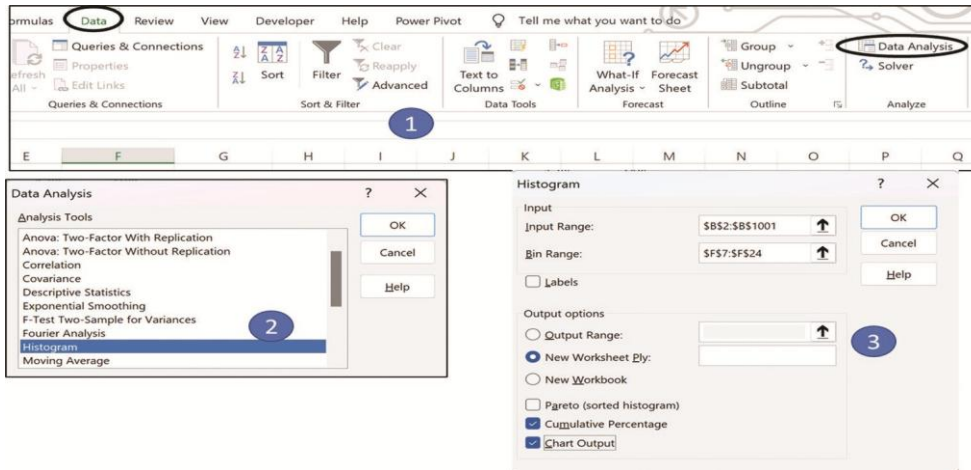

Figure 12.16: Requesting the statistics of the simulations
As we have the results of 200 runs, we can perform a statistical analysis of the results. If we name the range B2:B201 simulations - we can go to (1) **Data | Data Analysis** and use the (2) **Descriptive Statistics**. We enter the range of simulations, ask for all the statistics, and indicate to output it in the cell E2 (3). See Figure 12.16.
Rather than using the Excel statistical functions for the calculations, you can use the same tool we used for *Figure 12.16*, the Analysis ToolPak to get the histogram. We use the same data used on the Chart1000 Tab.